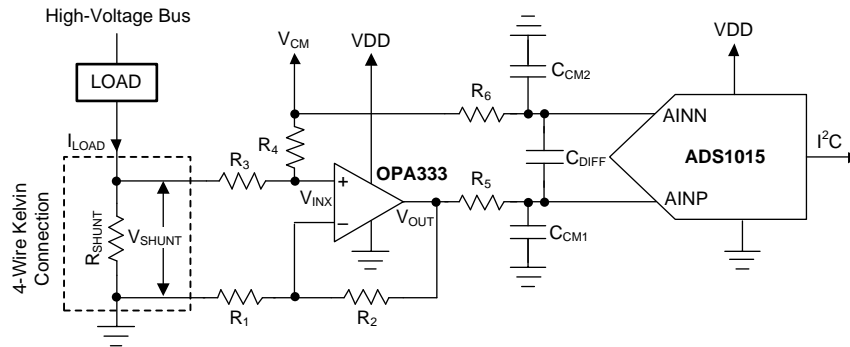

Figure 29. Low-Side Current Shunt Monitoring
Shunt-based, current-measurement solutions are widely used to monitor load currents. Low-side, current-shunt measurements are independent of the bus voltage because the shunt common-mode voltage is near ground. Figure 29 shows an example circuit for a bidirectional, low-side, current-shunt measurement system. The load current is determined by measuring the voltage across the shunt resistor that is amplified and level-shifted by a low-drift operational amplifier, OPA333. The OPA333 output voltage is digitized with ADS1015 and sent to the microcontroller using the I²C interface. This circuit is capable of measuring bidirectional currents flowing through the shunt resistor with great accuracy and precision.
- To level-shift the ground-referenced signal to allow bidirectional current measurements while running off a unipolar supply. The voltage across the shunt resistor, V_{SHUNT} , is level-shifted by a common-mode voltage, V_{CM} , as shown in Figure 29. The level-shifted voltage, V_{INX} , at the noninverting input is given by Equation 3.
A shunt resistor (R_{SHUNT}) is an accurate resistance inserted in series with the load as shown in Figure 29. If the absolute voltage drop across the shunt, $|V_{SHUNT}|$, is a larger percentage of the bus voltage, the voltage drop may reduce the overall efficiency and system performance. If $|V_{SHUNT}|$ is too low, measuring the small voltage drop requires careful design attention and proper selection of the ADC, operation amplifier, and precision resistors. Make sure that the absolute voltage at the shunt terminals does not result in violation of the input common-mode voltage range requirements of the operational amplifier. The power dissipation on the shunt resistor increases the temperature because of the current flowing through it. To minimize the measurement errors due to variation in temperature, select a low-drift shunt resistor. To minimize the measurement gain error, select a shunt resistor with low tolerance value. To remove the errors due to stray ground resistance, use a four-wire Kelvin-connected shunt resistor, as shown in Figure 29.